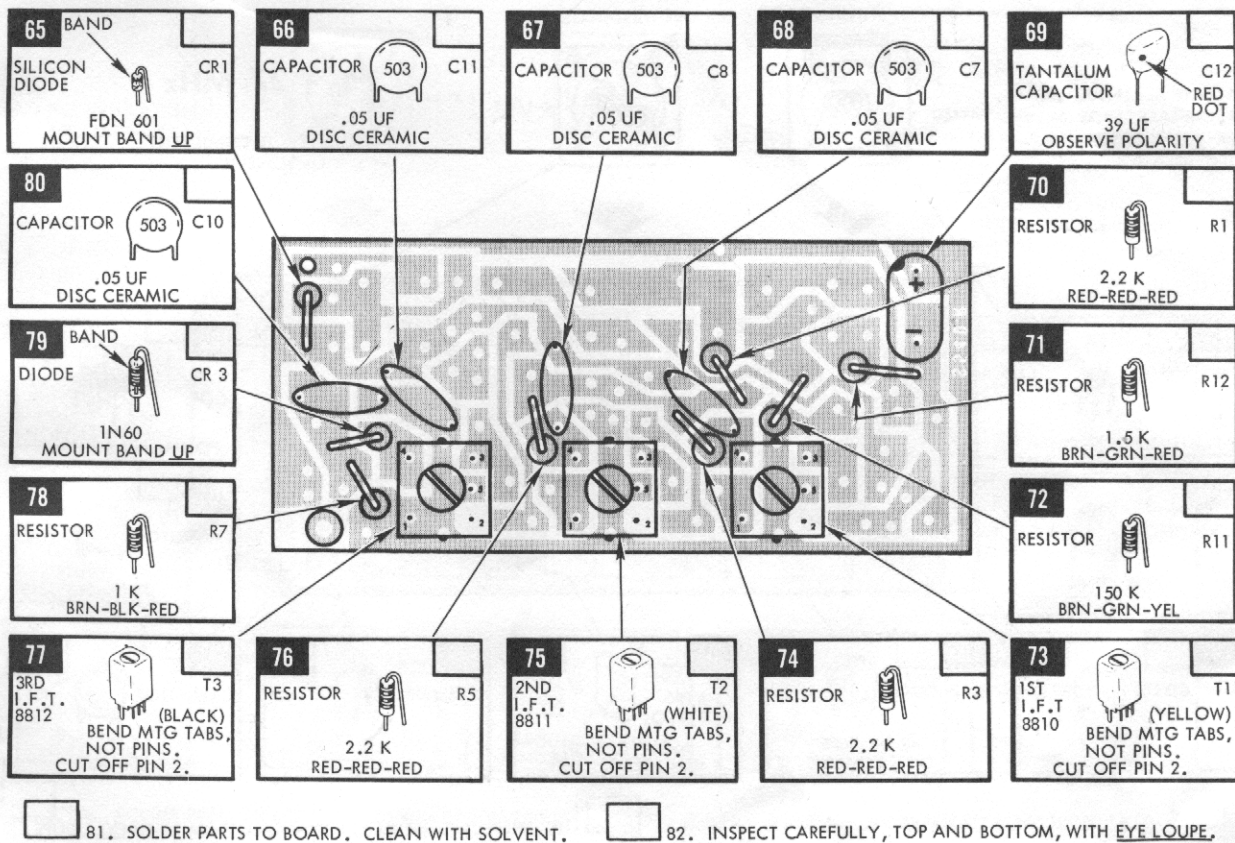

Figure 12. Basic Receiver Assembly (Sheet 1 of 2)
e. Next, position receiver printed circuit board S540-R, metal side down, to correspond with layout in figure 12. Assemble basic receiver as instructed in figures 12 and 13.